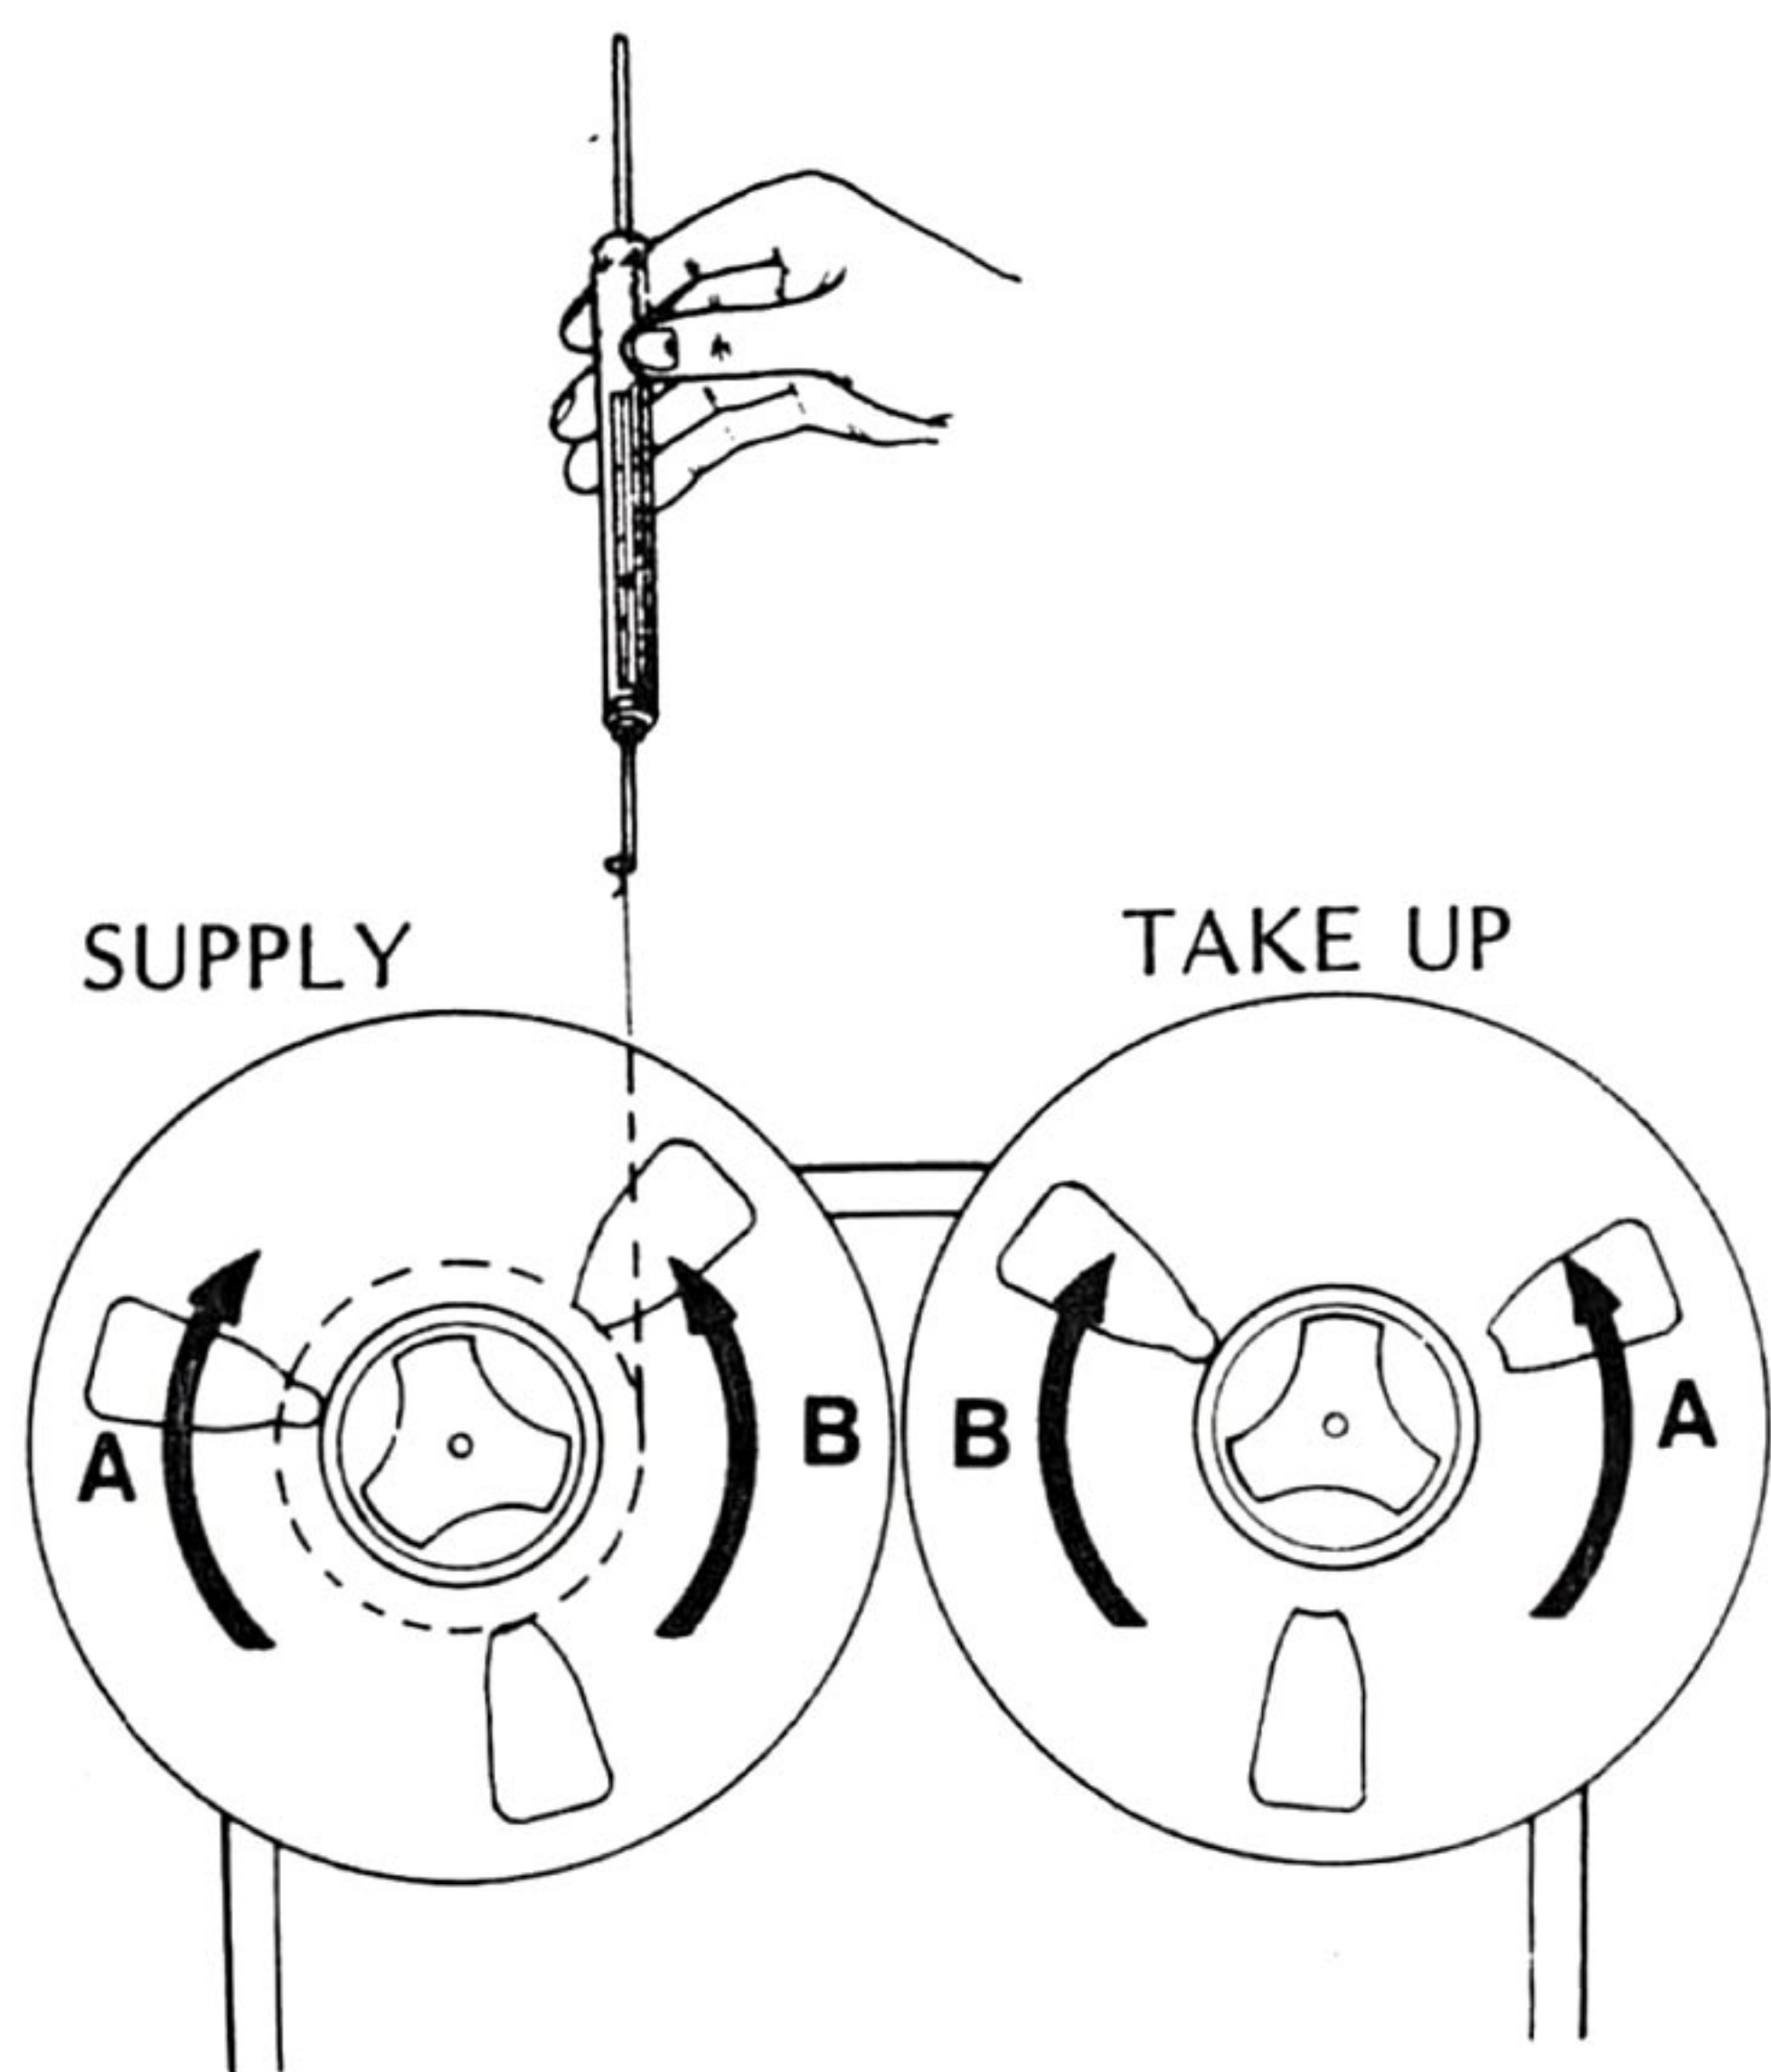

Fig. 2-2 Measurement
3. Insert the hook of a 0-16 ounce or 0-32 ounce spring scale through the loop and hold the spring scale upright as shown in Fig. 2-2.